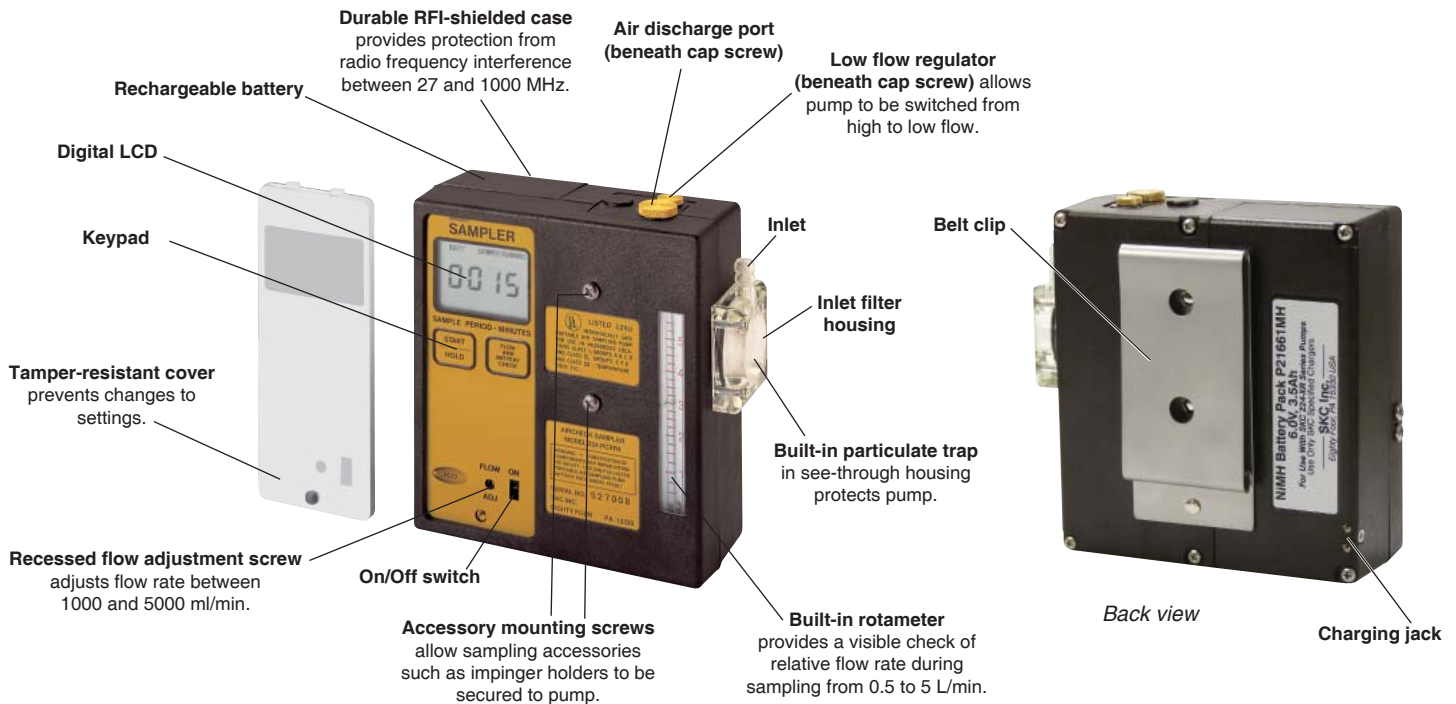

Figure 1. Front and Back Views of PCXR4 Universal Sample Pump
The PCXR4 Universal Sample Pump (Figure 1) is a constant flow (from 5 to 5000 ml/min) air sampler suitable for a broad range of applications. It is ideal for industrial hygiene studies as well as environmental testing.
3. Insert the charging plug end of the cable into the jack on the back of the pump's battery pack (*Figure 1*).
Turn Pump Power On/Off (Figure 1)
1. To ensure the pump is set for high flow, remove the cap screw (*Figure 1*) covering the regulator valve and turn the exposed screw **clockwise** until it stops. Do not overtighten. *See right.*
7. Set the flow rate using the flow adjustment screw (*Figure 1*) until the calibrator indicates the method-specified flow rate. Take a minimum of three readings and record the average flow rate, as per OSHA/NIOSH instructions.
- b. **When using impingers, an in-line trap (SKC Cat. No. 225-22 or 225-22-01) is required to prevent fumes from accidentally being drawn into the sampler.** Place the in-line trap between the pump and the impinger. Mount the impinger and trap to the face of the sampler using the accessory mounting screws (Figure 1) or place them in a holster at the worker's waist.
3. With the LCD displaying HOLD, start sampling by pressing Start/Hold (Figure 1). SAMPLE RUNNING will be displayed. Record the start time. The elapsed sampling time will be shown on the LCD.